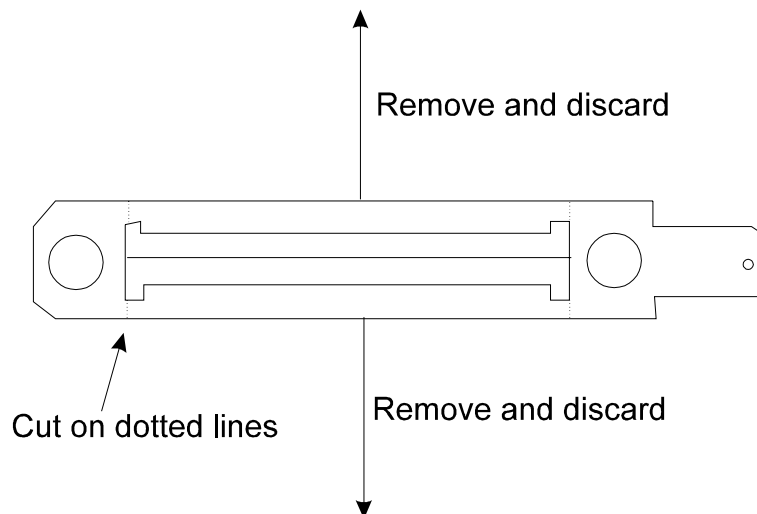
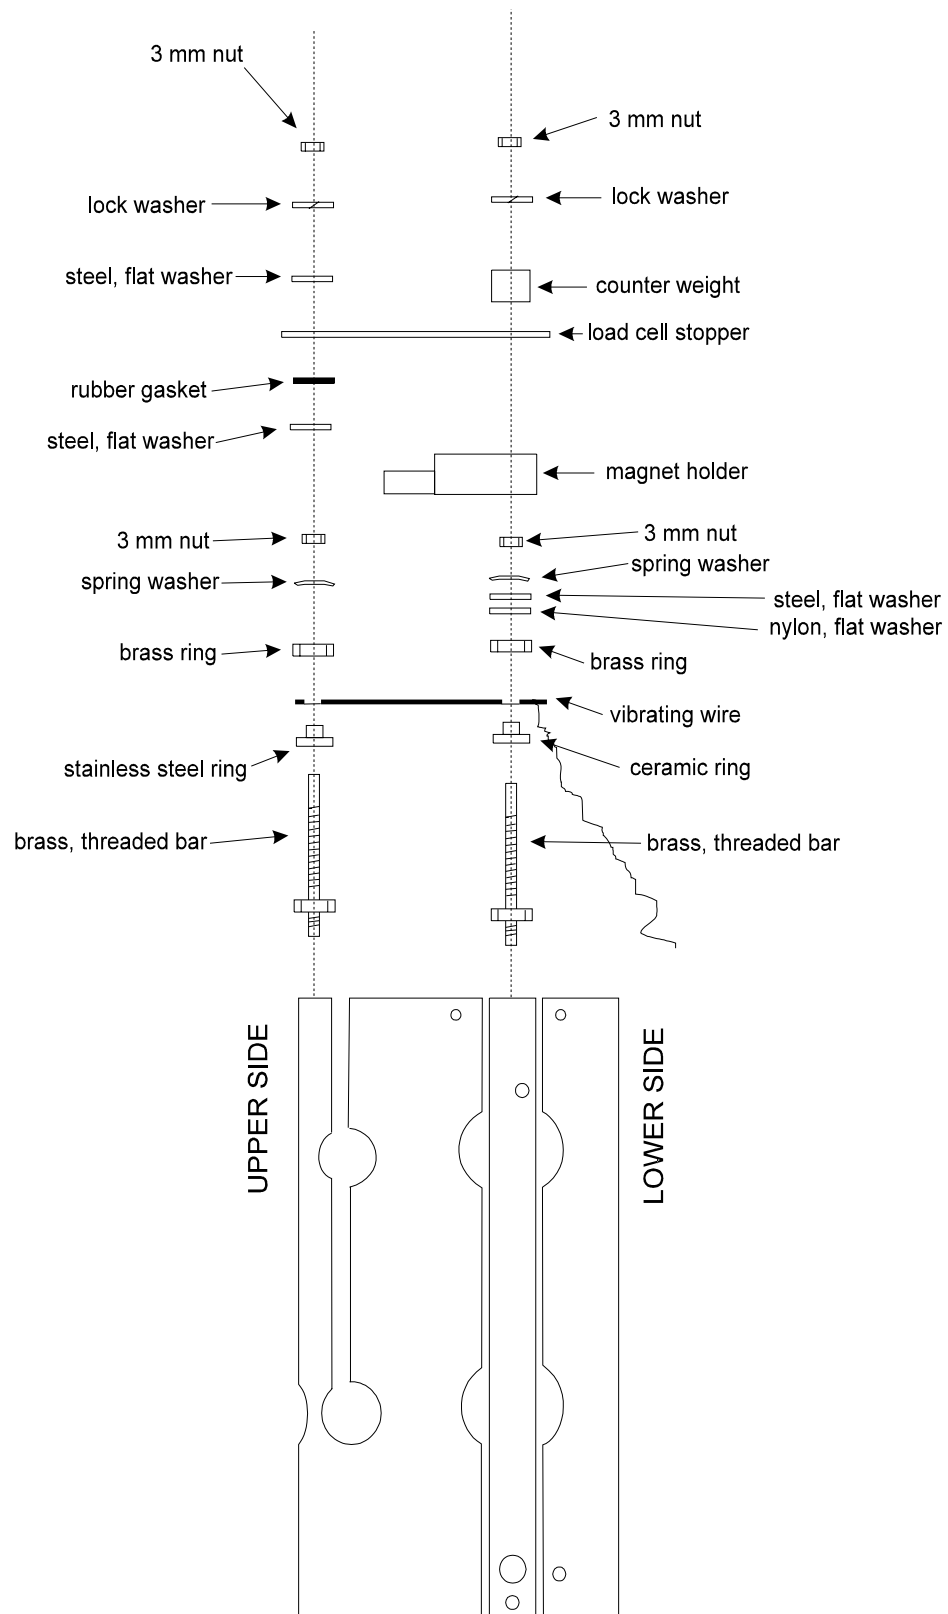

Figure 3: Vibrating Wire
Figure 4: Vibrating Wire Parts Blowup
If the vibrating wire needs to be removed, follow the next procedure. Please also refer to **Figure 4**.
To reinstall the vibrating wire, follow the next procedure. Please also refer to **Figure 3** and **Figure 4**.
- a) Unsolder the (2) blue wires from the old vibrating wire.
- b) Cut the vibrating wire, as shown in **Figure 3**.
- c) Resolder the (2) blue wires to the new vibrating wire.